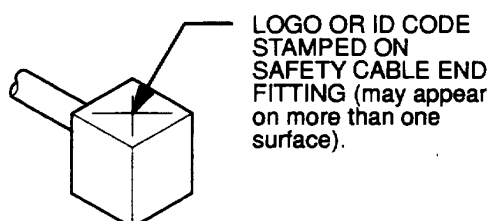

Figure 2-91. Safety Cable Identification Stamp.
f. Safety Cable Identification Stamp. In applications where the user requires a logo or ID code to be a permanent part of the safety cable installation (for warranty or tractability), it shall be applied by the safety cable manufacturer to one or more surfaces of the square end fitting of the safety cable. Only impression stamping is permitted, no paint, ink or labels are acceptable. See figure 2-91.